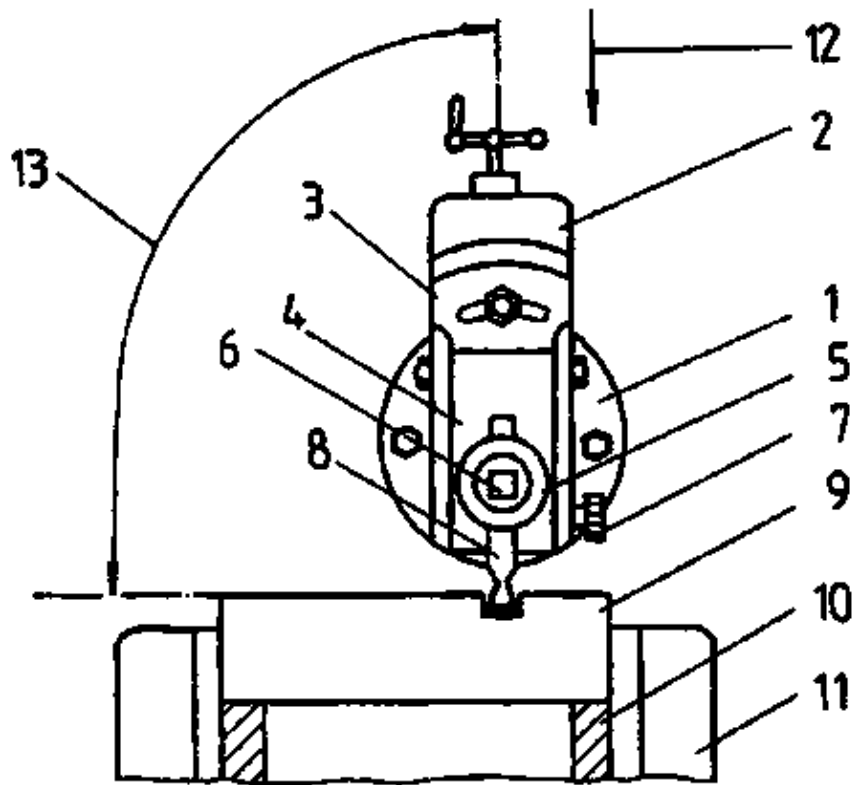

Figure 18. Tool slide in exactly vertical position
- Place the workpiece directly on the guideway of the vice (use parallels when the workpieces are flat – see Fig. 18) and tighten the vice.
- Align the straight primary cutting edge exactly parallel to the workpiece or table surface (fig. 18).